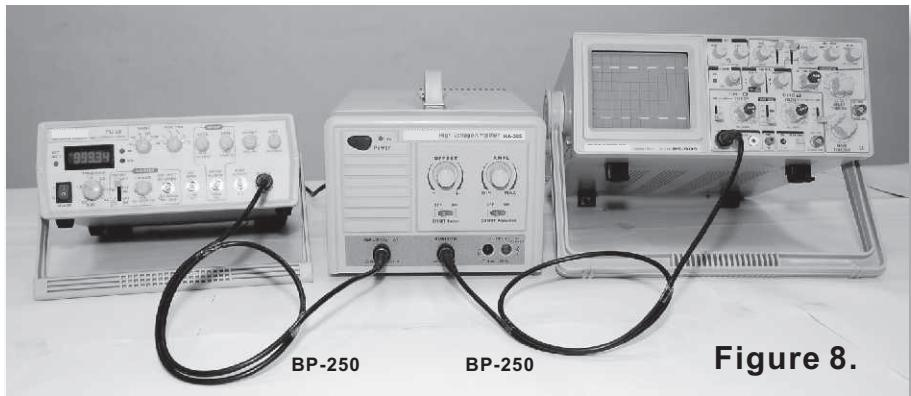

Figure 8.
5.1 Use Function Generator as input terminal, and directly connect HA-305 Monitor to Oscilloscope to observe the real amplified situation (Figure 8.)